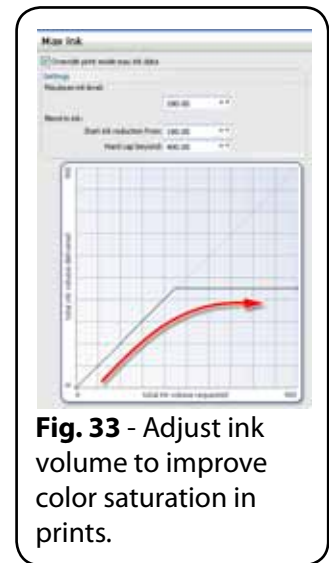

Fig. 33 - Adjust ink volume to improve color saturation in prints.
- **Ink Volume Control** – To improve the color saturation of your prints, use Max Ink adjustments (Fig. 33) to increase the volume of ink that is absorbed by the media. Like the color and image adjustments, the max ink settings can be used to compensate for slightly different absorbency of a substitute media.